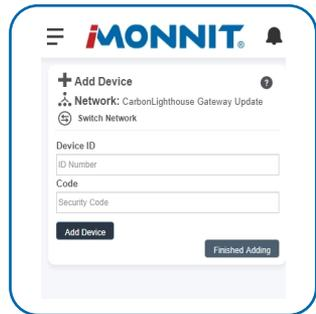

Figure 2
**3. Adding your device. See Figure 2.**